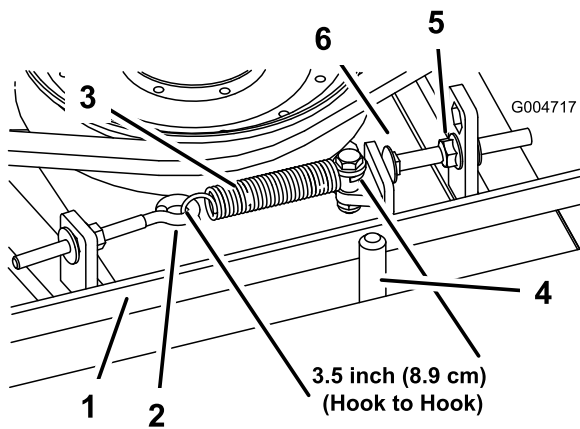

Figure 63
When properly tensioned, the extension spring (hook to hook) measurement should be approximately 3.50 ±.25 inch (inside). Once the correct spring tension is attained, adjust the stop bolt (carriage bolt) until there is approximately .125 +.060/-.000 inch clearance between the head of the bolt and the idler arm (Figure 63).
Note: Make sure the belt is positioned on the spring side of the belt guide (Figure 63).
2. Loosen the eye bolt allowing the removal of the extension spring (Figure 63).
3. Loosen the flange nut securing the stop bolt to the mounting tab. Back off the nut enough to allow the idler arm to pass by the stop bolt (Figure 63). Move the idler pulley away from the belt to release belt tension.
8. Reconnect the extension spring (Figure 63) to the eye bolt and tension the belt as follows: